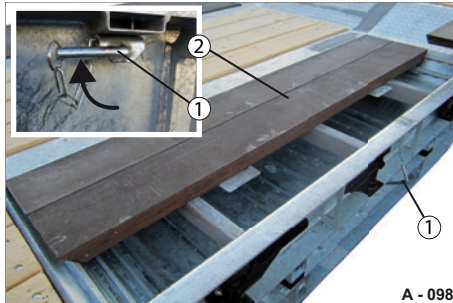

Fig. 107 Removing cover boards
- ▶ Turn and pull out the locking pin (Fig. 107/1).
- ▶ Remove the cover plates (Fig. 107/2) one after another.